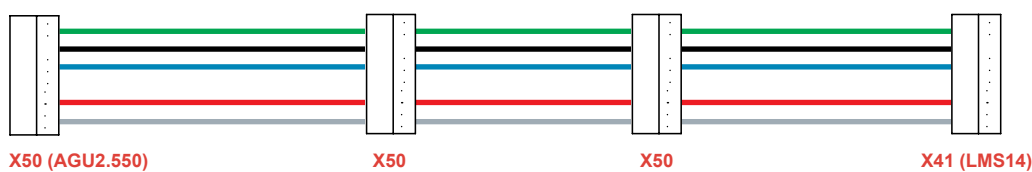

Fig. 4
4. Extra Modules Harness - Shown in Fig.4.